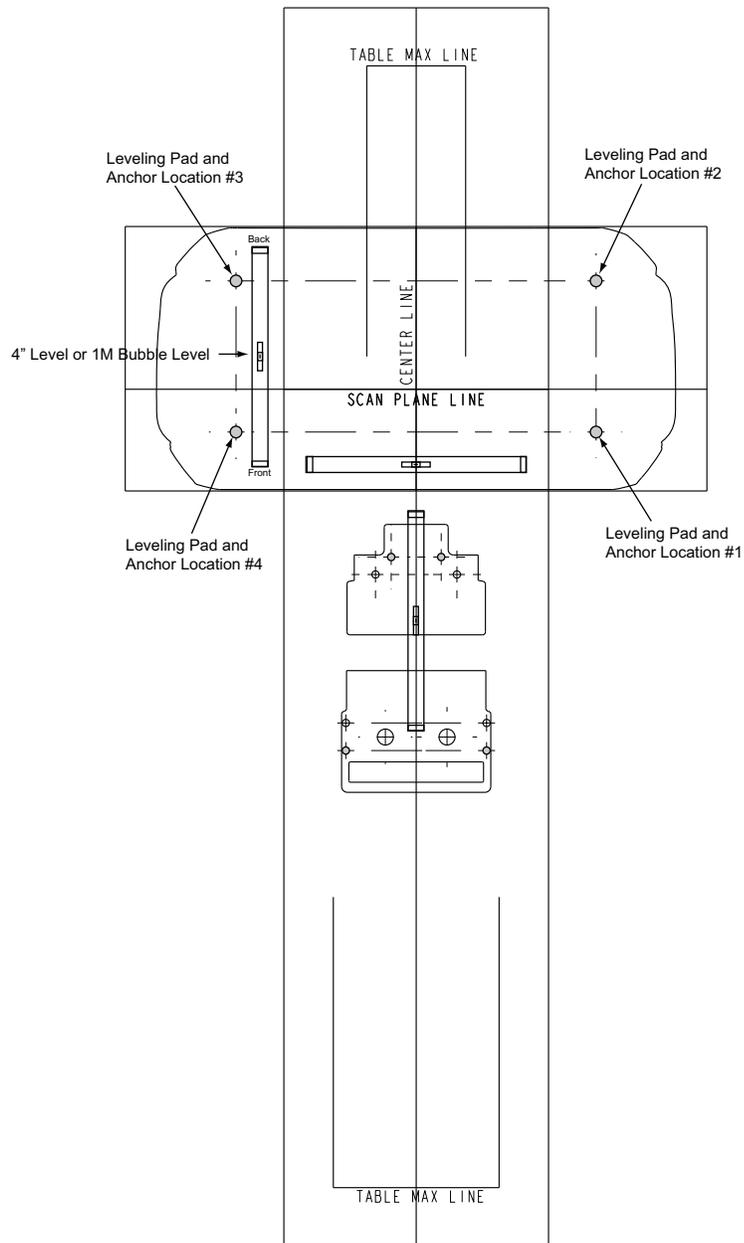

Figure 8-1 Determining Floor Levelness
- Refer to the steps listed in Section 3.1.3 and to Figure 8-1 to check whether the floor of the scan suite meets the floor levelness specifications for the system.
- 5.) Use a laser to check the levelness of the floor across the entire area covered by the template, as shown in Figure 8-1.